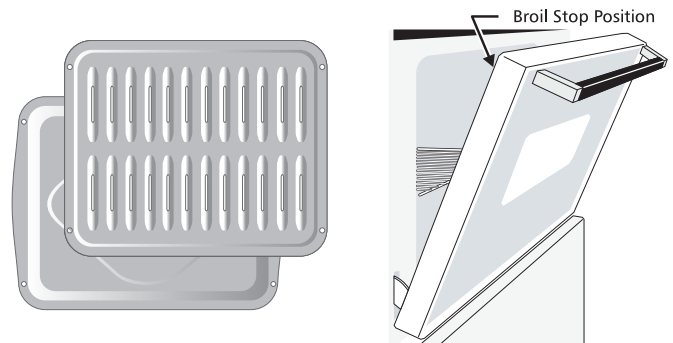

Figure 23: Broil pan and insert (L) Door in position when broiling (R).
6. Place the broiler pan and insert on the oven rack. Broil with the oven door open to broil stop position (Figure 23).